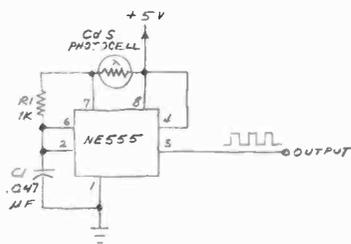

Fig. 4. A/D converter.
**Analog/Digital Converter.** Analog/digital (A/D) converters transform analog signals such as voltage levels into patterns of pulses which can be used in a digital circuit. Figure 4 shows an ultra-simple A/D converter which transforms a variable light level into a stream of pulses. The circuit uses a 555 timer connected as a light-sensitive astable multivibrator. When the photocell is in darkness, the pulse rate is about 1 Hz; when it is placed near a 60-watt lamp, the pulse rate jumps above 22 kHz.